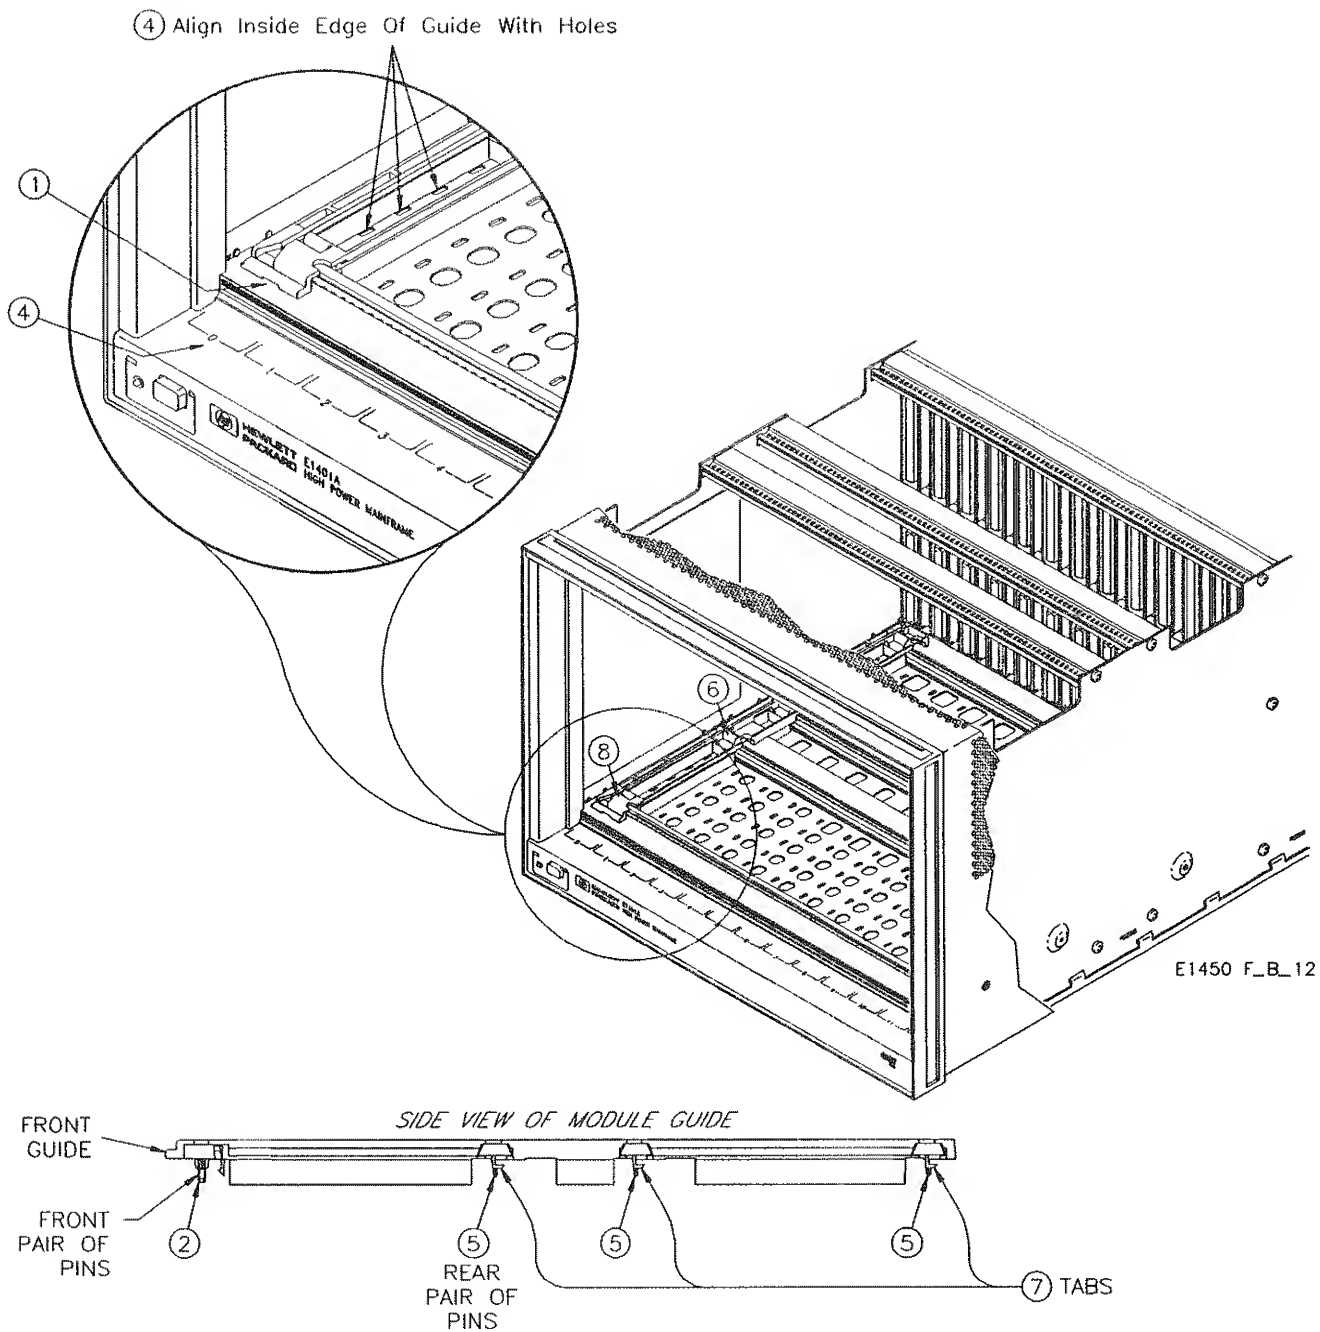

Figure B-12. Replacing a Lower Module Guide
The lower plastic module guides are single piece units that can be easily replaced if required. Refer to figure B-12.
4. Align the left edge of the guide you are going to install with the right edge of the adjacent guide. If there is no adjacent guide, align the guide between slot marks on the lower front bezel. Sight along one edge of the guide to make sure that it is at right angles to the frame rails. When properly positioned, the air inlet holes will align with the left inside wall of the module guide as shown in figure B-12.
5. Make sure that the rear three (3) sets of pins are inserted into their holes in the three rearmost rails, and that the guide is now low enough to rest directly on top of the rear rail.
7. Push the guide back slightly to engage the three (3) tabs on the guide under their notches in the three rear rails.